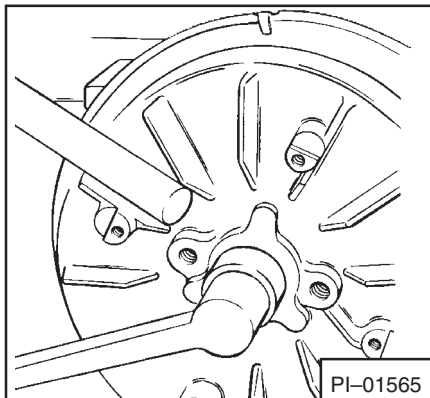

Fig. 62 Installing Flywheel
- b. Install lock washer and holding nut. Insert a bar between flywheel fins and tighten holding nut to torque value specified in Clearance Section (Fig. 62).